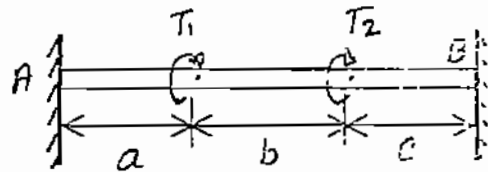

Figure 2
3. Describe various types of strain rosettes and their relative advantages. In a rectangular strain rosette, the recorded strains are $\epsilon_1 = -110 \times 10^{-6}$, $\epsilon_2 = 60 \times 10^{-6}$, $\epsilon_3 = 110 \times 10^{-6}$. Find the principal strains and principal stresses. Poisson's ratio = 0.3, Young's modulus = 2×10^{11} N/cm². (10)
4. A prismatic shaft of diameter d has built-in ends and is subjected to the action of externally applied twisting moments T_1 and T_2 as shown in Figure 2. Find the support reactions, if $a = 75$ cm, $b = 125$ cm and $c = 100$ cm, $T_1 = 12$ KN-cm and $T_2 = 24$ KN-cm. (8)